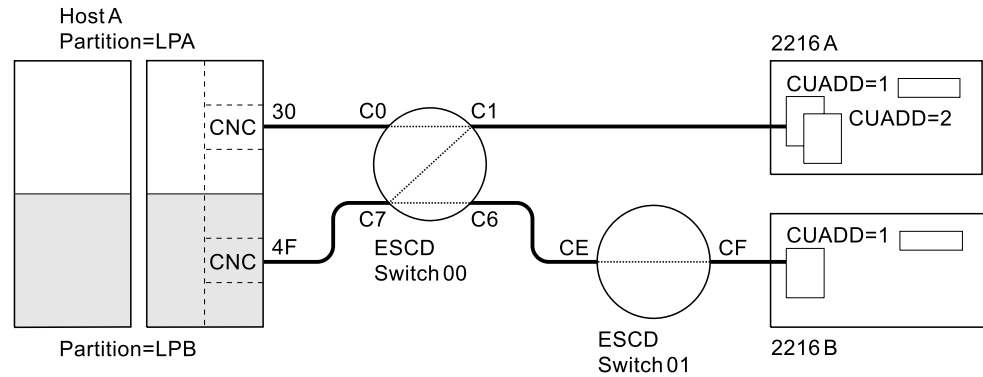

Figure 1-11. ESCON Channel Configuration Example
Figure 1-11 on page 1-27 shows an example of an ESCON configuration. The S/390 host is divided into two logical partitions (LP): LPA and LPB. A connection on path 30 is configured between LPA and 2216A through ESCD switch 00. LPA is attached to ESCD port C0 and 2216A is attached to port C1. The connection between port C0 and C1 is dynamic.
The following example definitions match Figure 1-11: